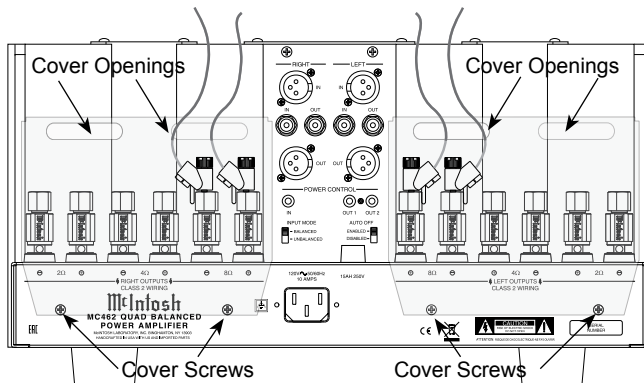

Figure 5 (Inside USA and Canada)
5. Locate the Terminal Connection Covers from the inside of the MC462 shipping carton. Insert the just prepared Loudspeaker hookup cables thru the cover openings, one cover for each channel. Refer to figure 5.
*Note: The illustration in figure 5 is connections for 8Ω (ohms) Loudspeakers.*
9. Attach the Terminal Connection Covers to the MC462 Rear Panel with the previously removed Screws. Refer to figure 5.